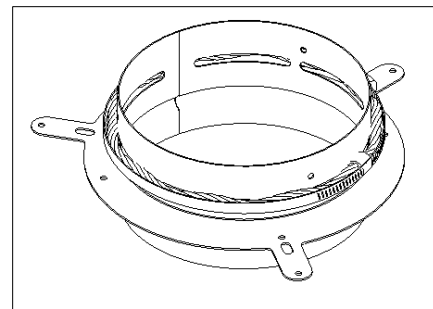

Figure 3-6: 6CON Liner Connector
The Astra Duo fireplace can be connected to a masonry chimney that complies with current national and municipal building codes. A 6" chimney liner that complies with ULC S635 M2000 (Canada) or UL 1777 (US) standards must be installed within the existing masonry chimney. Note that the 6CON connector (manufactured by SUPREME FIREPLACES INC.) must be installed to connect the prefabricated chimney to the liner (6CON sold separately). Refer to Figure 3-6 and Figure 3-7.